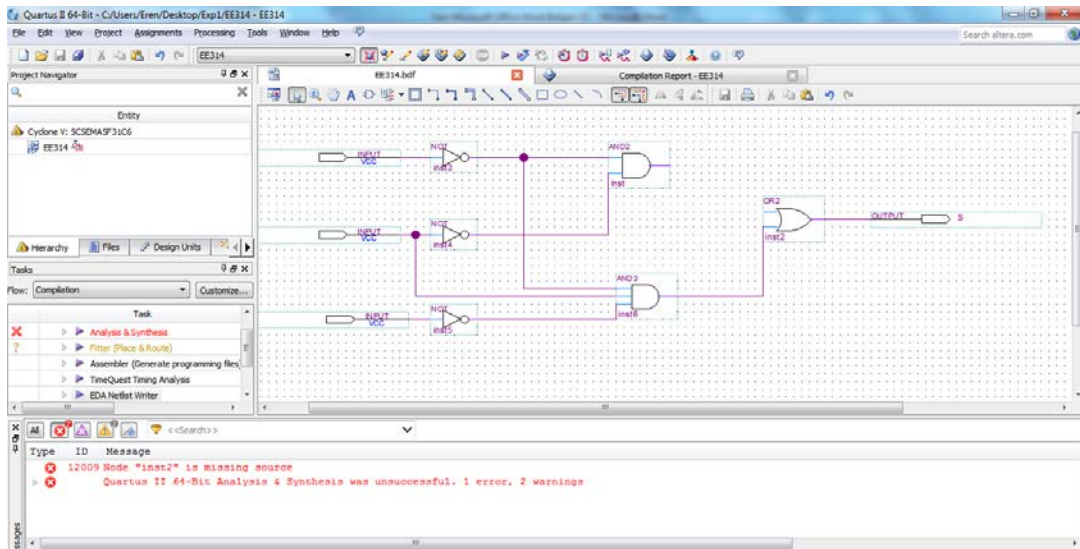

Fig. 9: Unsuccessful Compile Screen
- 2) Now we will see what happens if the compiler cannot compile the designed circuit. Click on the  icon and right click on the wire between **output of and2** and **input of or2 gate** and then click on **Delete**. Then compile your design. You will see a screen similar to the Fig. 9.